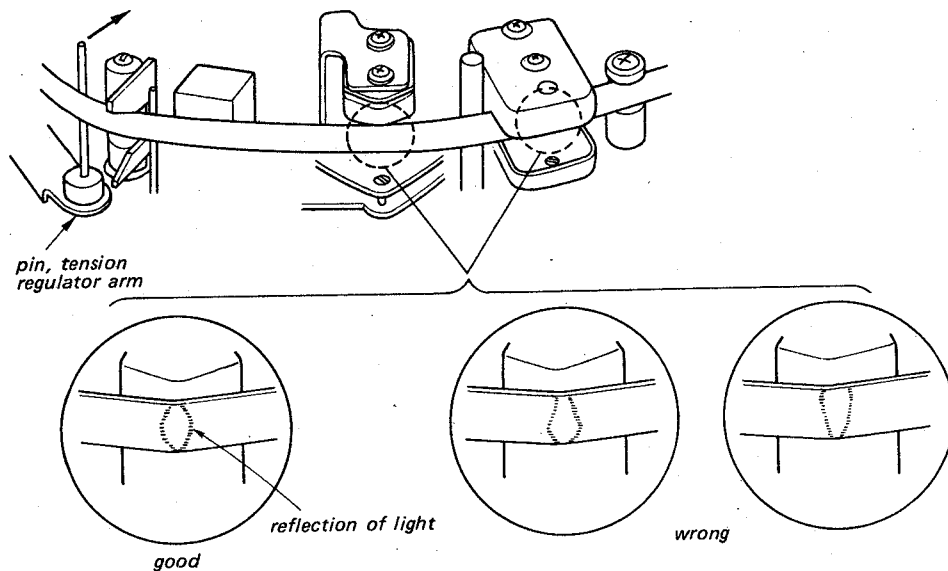

Fig. 9-5 Tentative record and p.b. heads adjustment
- (1) Thread a blank tape.
- (2) Set the machine in FWD mode at the 19 cm/s (7½ ips) tape speed.
- (3) Make the tape loose a little by pushing the tension regulator arm pin in the direction shown with the arrow in Fig. 9-5 and then adjust the p.b. head zenith and azimuth adjusting screws and the record head zenith and azimuth adjusting screws to obtain the reflection of light as shown in Fig. 9-5.
- (4) Set the machine in STOP mode.
- (5) Turn the p.b. head azimuth adjusting screw so that the upper edge of the p.b. head core is parallel with that of the tape.
- (6) Turn the p.b. head height adjusting screw to align the upper edge of the p.b. head core and that of the tape and memorize the number of turns of the screw.
- (7) Turn the p.b. head zenith adjusting screw by the same number of turns in the same direction of the p.b. head height adjusting screw.
- (8) Repeat the above procedures (6) and (7) to align the upper edge of the p.b. head core and that of the tape.
- (9) Turn the p.b. head zenith and height adjusting screws counterclockwise by approximately 20° from the position obtained in the preceding procedure (8) so that the upper edge of the p.b. head core is 0.025mm lower than that of the tape.
- (10) Turn the record head azimuth adjusting screw so that the upper edge of the record head core is parallel with that of the tape.
- (11) Turn the record head height adjusting screw to align the upper edge of the record head core and that of the tape and memorize the number of turns of the screw.
- (12) Turn the record head zenith adjusting screw by the same number of turns in the same direction of the record head height adjusting screw.
- (13) Repeat the above procedures (11) and (12) to align the upper edge of the record head core and that of the tape.
- (14) Turn the record head zenith and height adjusting screws counterclockwise by approximately 20° from the position obtained in the preceding procedure (13) so that the upper edge of the record head core is 0.025 mm lower than that of the tape.
- (15) Set the machine in FWD mode at the 19 cm/s (7½ ips) tape speed.
- (16) Be sure to obtain the reflection of light as shown in Fig. 9-5 on the tape at the p.b. and record heads by pushing the tension regulator arm pin in the direction shown by the arrow in Fig. 9-5. If not, repeat the above procedures (3)~(14).